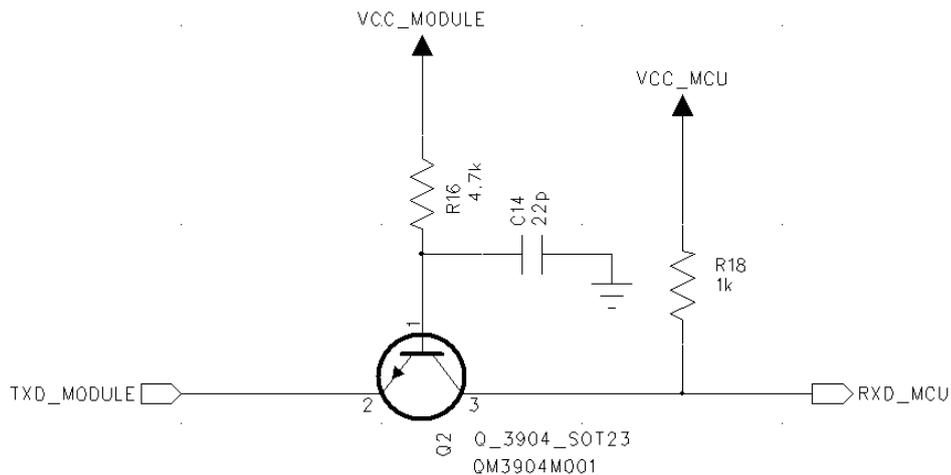

Figure 6-4 UART Interface RX Level Shift Reference Design
3. Single-chip microcomputer as the host computer: if the power supply of the single-chip microcomputer is inconsistent with the power supply of the module, a level conversion chip needs to be used. For example, as shown in Figure 6-4/6-5, a triode is used to realize the level conversion. calculate. The diode in the figure is a Schottky diode (the forward voltage drop is 0.3V). If you choose other diodes, please choose a small forward voltage drop to ensure that the level of RXD_module is at the low level input threshold when inputting a low level. the following.